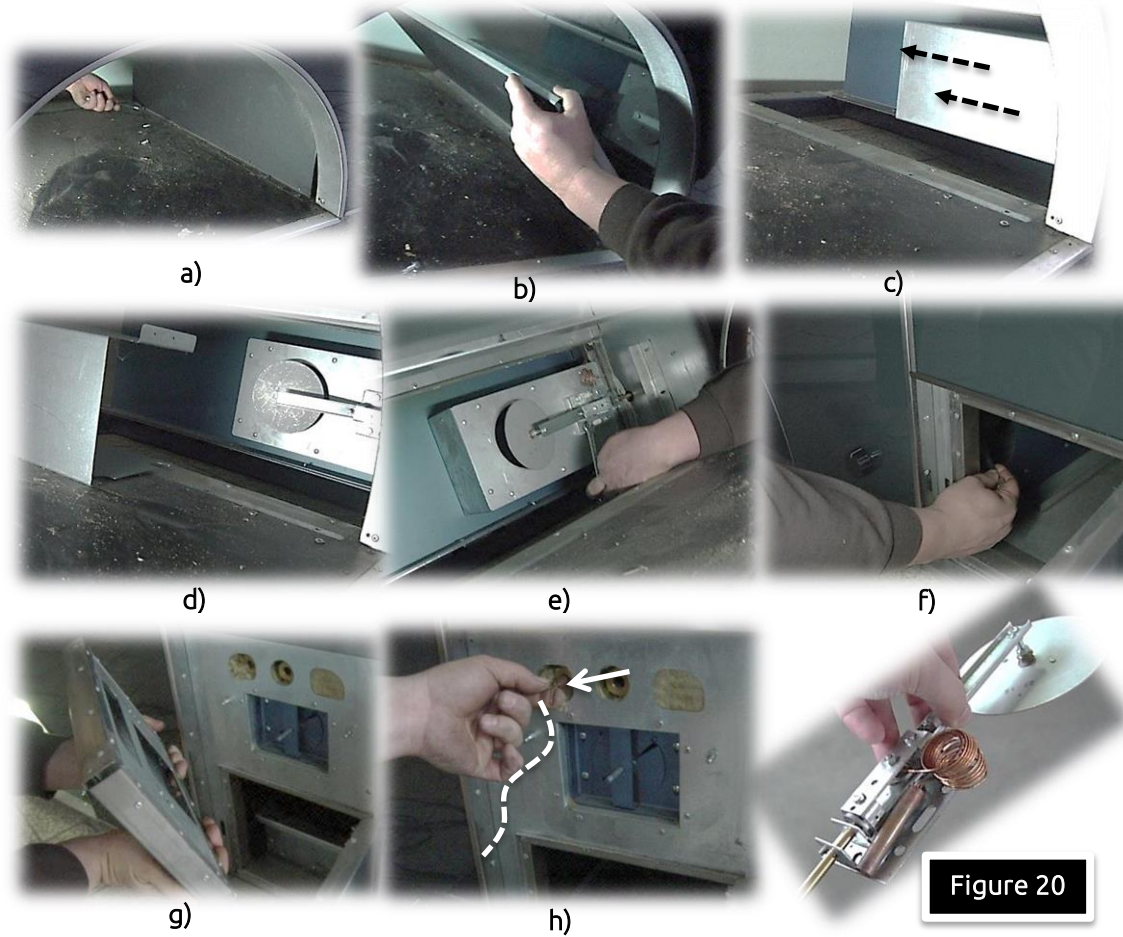

Figure 20
- remove the automatic regulator PVC wheel (12) by pulling it towards yourself,
- remove the lid that is inside the fuel box (15) by releasing the 5 screws M8 (*Figure 20 a and b*),
- pull the automatic regulator lid all the way back (*Figure 20 c and d* ⇒ broken pointers),
- through the opening that is between ash box (14) and automatic regulator with wrench loosen the 4 screws M6 – *Figure 20 e i f*,